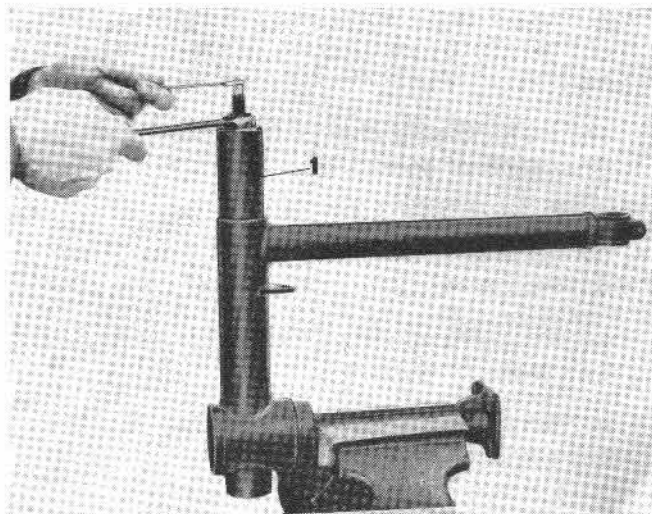

Fig. 102
- remove the two roller bearings. To pull outer races from fork, use tool No. 12904700 (see 1 on Fig. 102).